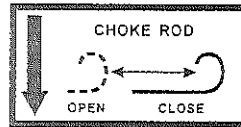

Figure 5- Choke positions
4. Move the choke lever to the “closed” position (see figure 5).